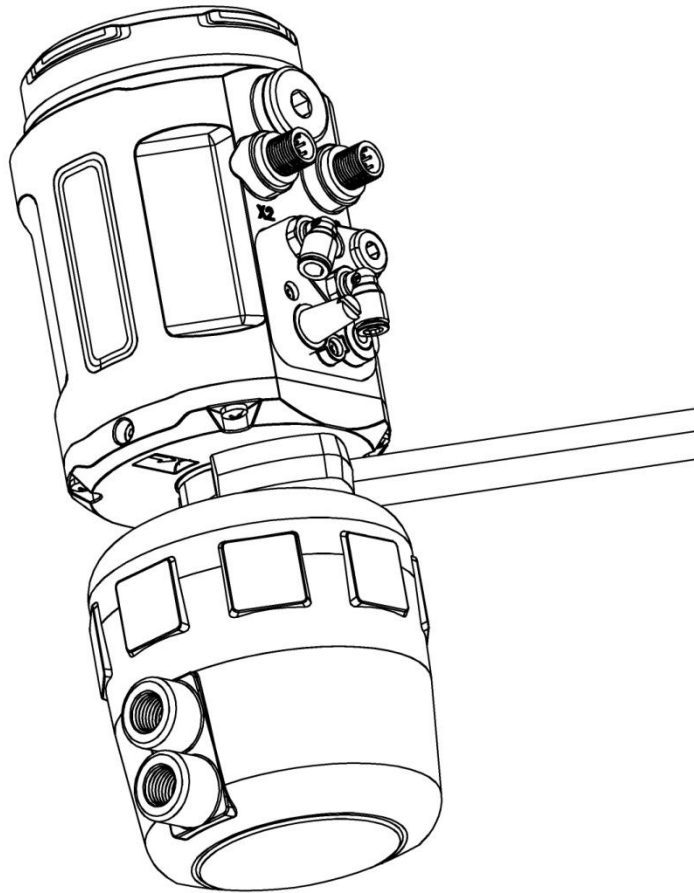

Figure 6. Actuator Combination
4. Make the actuator connection of the positioner entering into the thread connection of the actuator by **NO.32 wrench**. As shown in Figure 6.